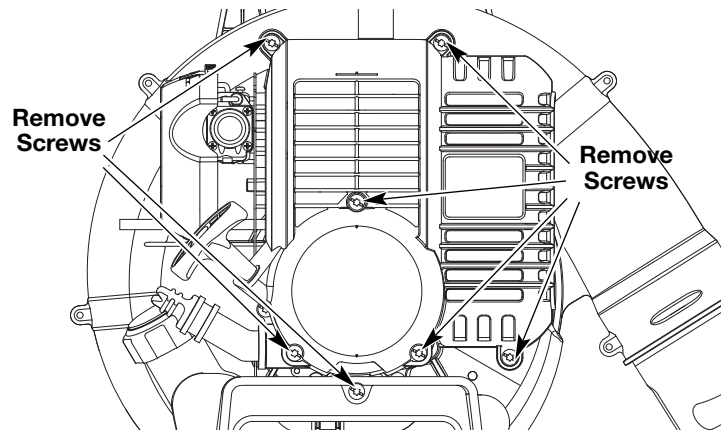

Fig. 31
1. Remove the seven (7) screws on the back of the engine cover with a Flat-head or T-25 Torx screwdriver (Fig. 31).
4. Remove the engine cover (Fig. 31).
1. Stop the engine and allow it to cool. Remove the eight (8) screws on the back of the engine cover with a Flat-head or T-25 Torx screwdriver (Fig. 31).